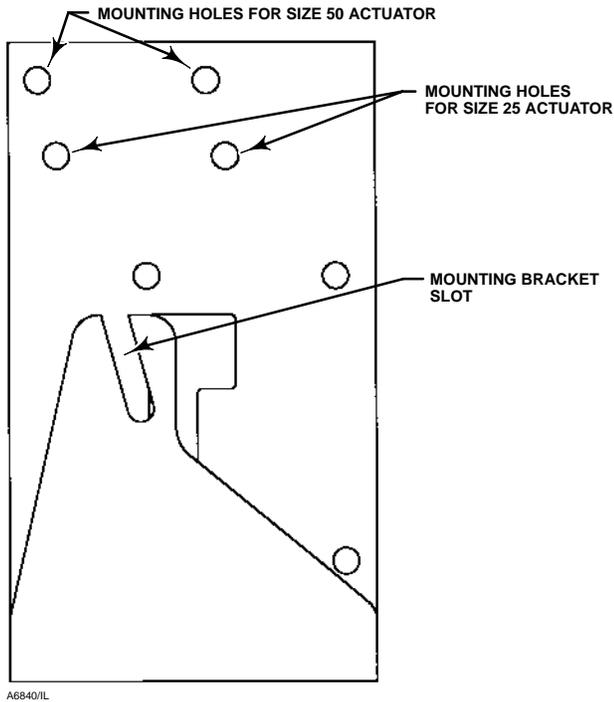

Figure 6. Positioner Mounting Bracket
5. Attach the feedback roller (key 175) to the stem bracket (key 195) with the button head screw (key 173).
6. Attach the positioner adaptor (key 113) to the mounting bracket (key 194) with four hex nuts (key 197) and four hex socket cap screws (key 54).
7. Remove the positioner cover. Attach the Type 3611JP or 3621JP positioner to the positioner adaptor/mounting bracket assembly with four hex socket cap screws (key 54).
9. Thread one of the three hex head cap screws (key 196) into the yoke leg threaded hole approximately two (2) turns.
10. Install the assembly from step 7 to the Type 585C or 585CR actuator by sliding the mounting bracket slot (see figure 6) onto the yoke leg cap screw. As you attach this assembly to the
actuator, center the spring-loaded feedback arm under the feedback roller (key 175) on the stem bracket (key 195). Align the mounting bracket top holes (see figure 6) with the cylinder holes and install the remaining two hex head cap screws (key 196). Tighten all screws.
11. With the actuator still at mid travel and the top edge of the feedback lever assembly perpendicular to the actuator stem, install the adjuster assembly/roller in the appropriate stem bracket slot with the button head screw (key 173) so the roller (key 175) is centered over the correct actuator travel marked on the feedback lever assembly.